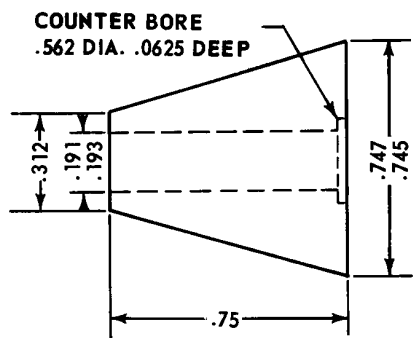

Figure 32-13. Brake Master Cylinder (Hand/Parking Brake)
DISASSEMBLY OF BRAKE MASTER CYLINDER. (Refer to Figure 32-13.)
ASSEMBLY OF BRAKE MASTER CYLINDER. (Refer to Figure 32-13.)
1. Install new O-ring on the inside and outside of the packing gland and on the outside of the piston. (When installing teflon O-ring on piston, it is recommended that it be installed with the use of a cone placed against the piston. The cone may be constructed of plastic or metal with dimensions shown in Figure 32-13.)